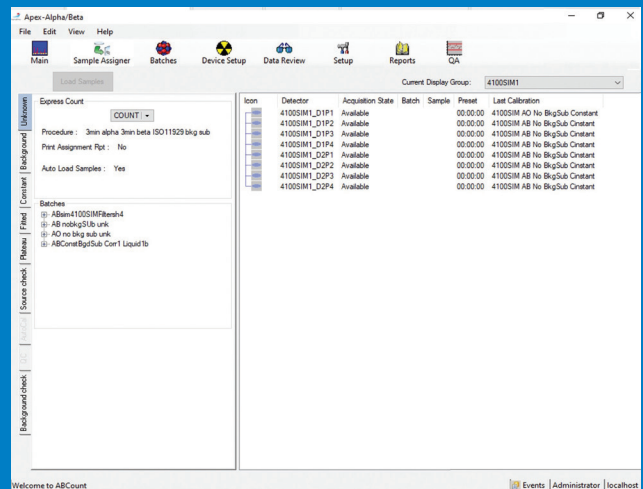

Figure 2. Sample Assigner
- **Drag and Drop Batches** onto detectors or groups. (Figure 2 – Sample Assigner)
During counting, real-time results are displayed in the Sample Assigner view (refer to Figure 2) for each detector within the selected display group for up to eight detectors. The background color code indicates detector status: